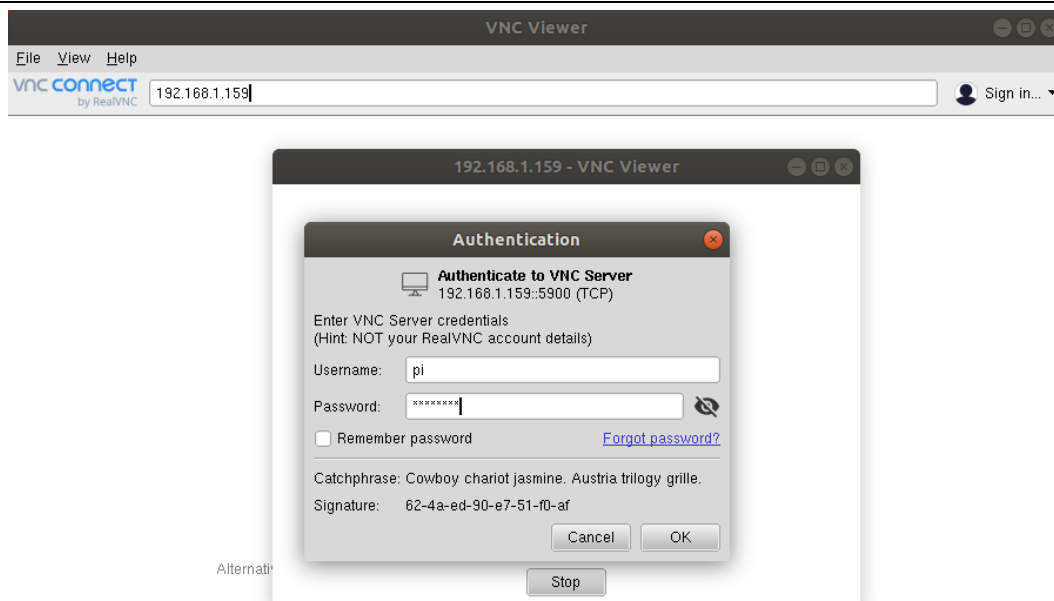

Figure 2-4 Remotely Connecting to Robot
- 1, As shown in Figure 2-4, in the authentication window that pops up, enter the account and password of the robot port, and the default account name is "PI" and the password is "elephant". Click "OK" button to connect when you have finished typing.